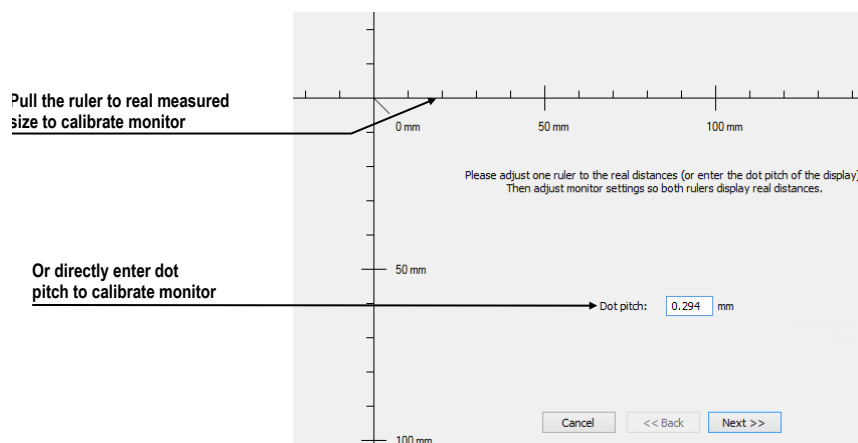

Figure 72 – Monitor calibration
2. The **Full screen calibration** dialog is then displayed on the selected monitor (see Figure 72).